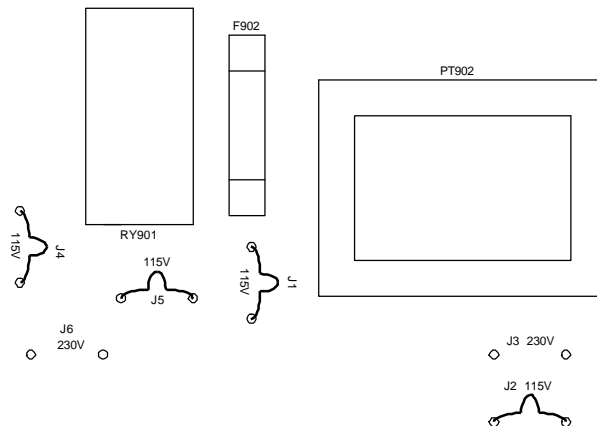

Figure 2: Jumper position for 115V operation. Main fuse is 5A 250V.
- 3) Near PT902, cut jumpers J3 and J6 - see figure 2 below.
- 4) Make jumpers J1, J2, J4 and J5 - see figure 2 below.